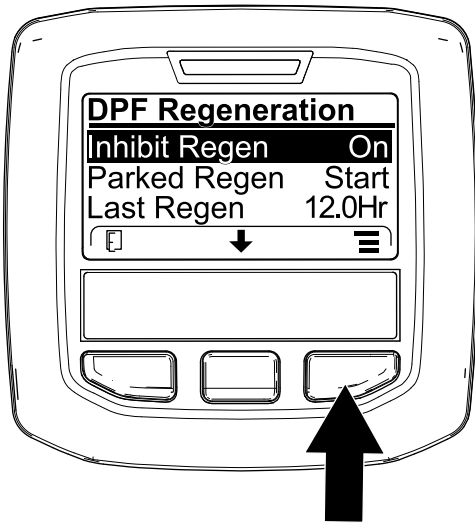
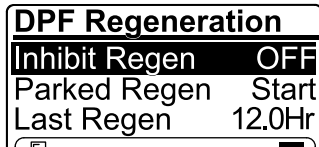

Figure 70
Figure 71
1. Access the DPF Regeneration menu, press the center button to scroll down to the INHIBIT REGEN option, and press the right button to select the Inhibit Regen entry (Figure 70).
- Press the right button to change the inhibit regeneration setting from On to Off (Figure 70) or from Off to On (Figure 71).